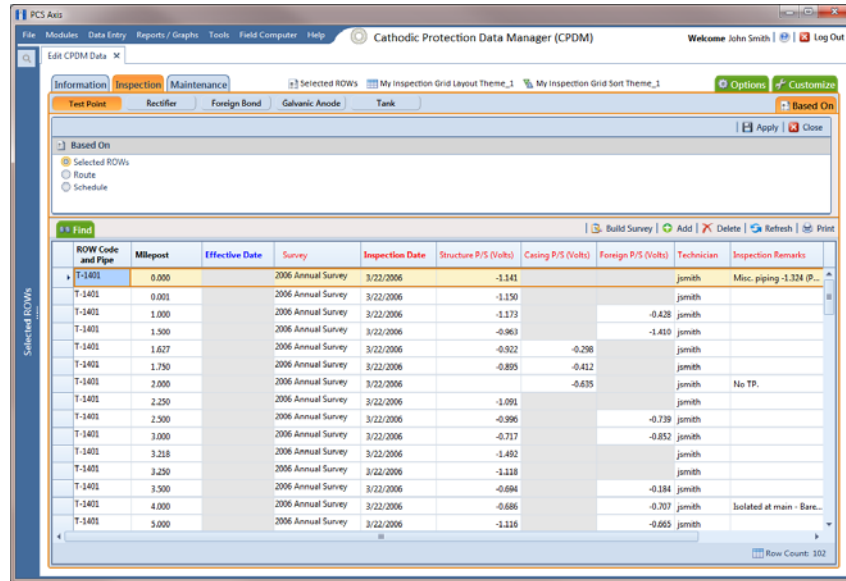

Figure 7-31. Based On Selected ROWs
- a Click the **Based On** tab  to open the based on panel and then complete the following steps (Figure 7-31, page 216):